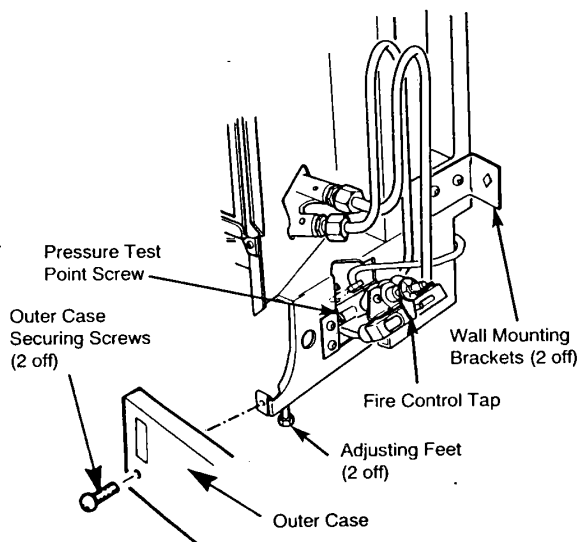

Fig. 7 Commission the Fire
- (c) Adjust the feet to level the fire (Fig.7). Check that the fire is sufficiently stable.
- (a) Fit the two wall mounting brackets using the four No. 8 x 3/8in self tapping screws provided (Fig. 7).
## Check the gas pressure (Figs 7 and 11)
- (c) Secure the outer case to the inner case using the two screws provided then locate the cover panel in the spring clips (Fig. 7).
- (c) Remove the two case securing screws (Fig.7).